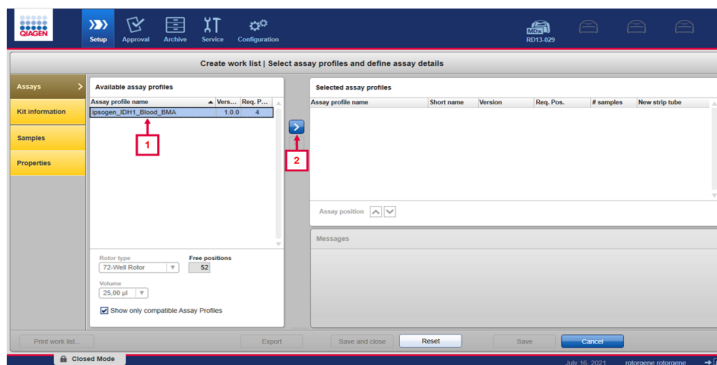

Figure 9. “Create work list” window. Box 1 indicates Assay profile to select. Box 2 indicates how to select chosen assay profile.
8. To perform an IDH1 run, ensure that the **Assays** tab is selected. Click the **ipsogen_IDH1_Blood_BMA** assay profile in the “Available assay profiles” window (Figure 9, indicated by box 1) and click the **blue arrow** to select the assay profile (Figure 9, indicated by box 2). Move the mouse pointer over the assay profile to see the full name if required. The assay profile should now appear in the “Selected assay profiles” window (Figure 9).